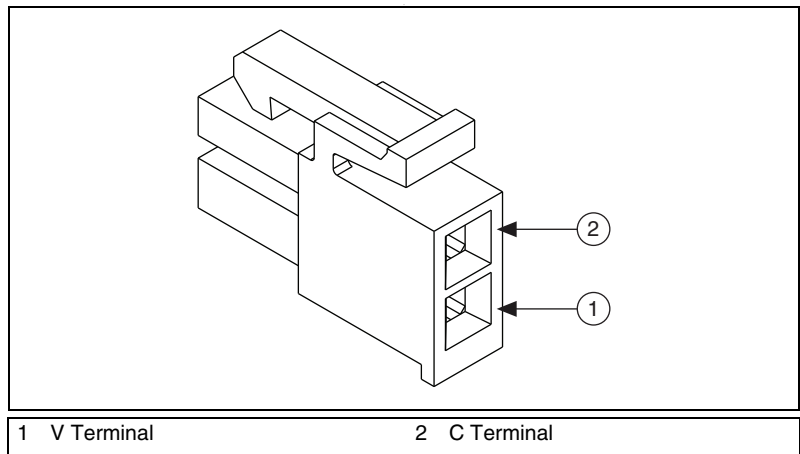

Figure 30. NI sbRIO Device Power Connector
2. Connect the V lead of the power supply to position 1 of the power connector plug. Figure 30 shows the positions on the power connector.